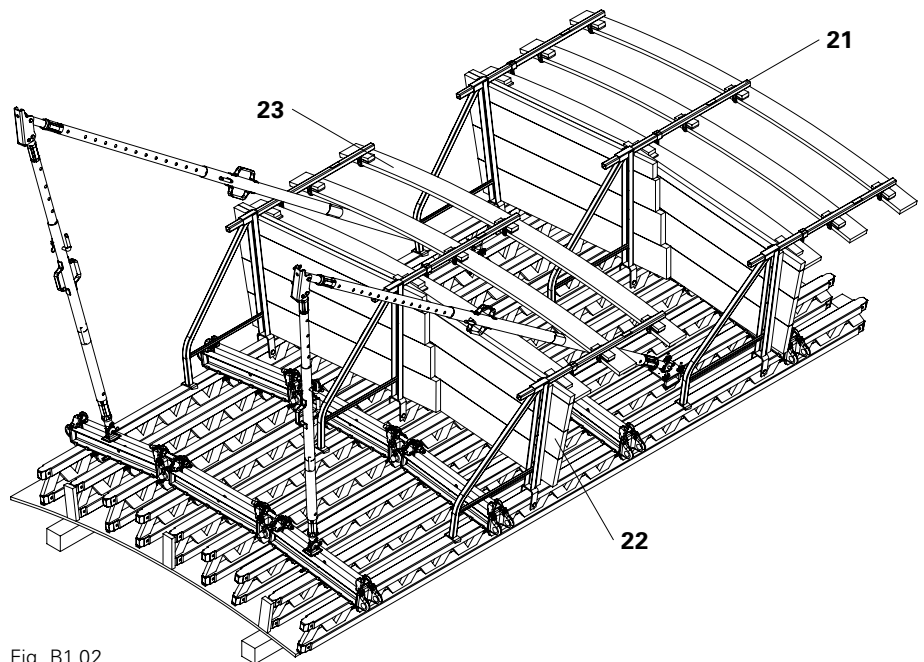

Fig. B1.02
1. Fix decking (22) across complete bracket width from below using TSS-Torx 6 x 40.
2. Insert Guardrail Post HSGP-2 (21).
3. Insert and secure handrail boards (23).
- (Fig. B1.02)